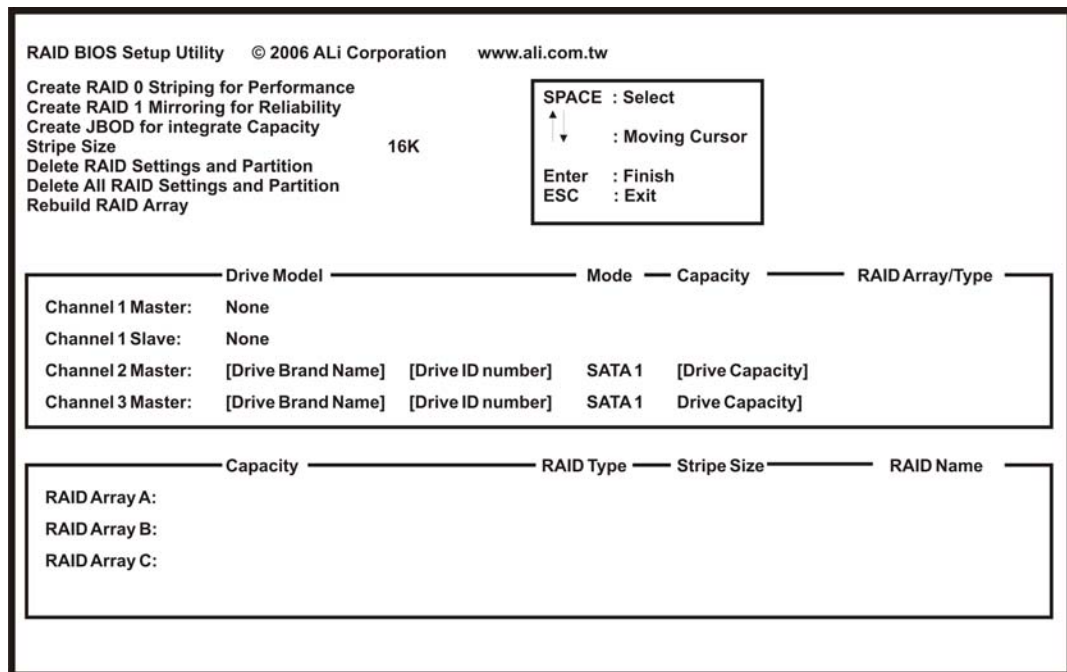

Figure E-2: RAID BIOS Setup Utility
- Step 6: Delete RAID settings and partitions.** The **RAID BIOS Setup Utility** in **Figure E-2** appears. Before configuring the array select the “**Delete All RAID Setting & Partition**”.
Step 7: Configure the RAID settings. Use the RAID BIOS Setup Utility in Figure E-2 to configure the RAID array. Brief descriptions are given below.